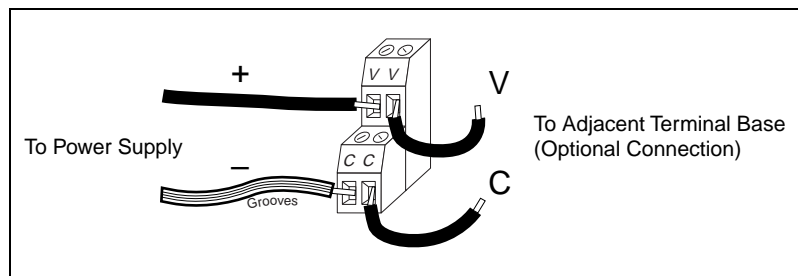

Figure 5. Connecting to the V and C Terminals of the FP-1000
1. Attach the two leads of the power supply to the V and C terminals of the FP-1000 network module, as shown in Figure 5. This connection provides power to the network modules and all I/O modules in the bank.